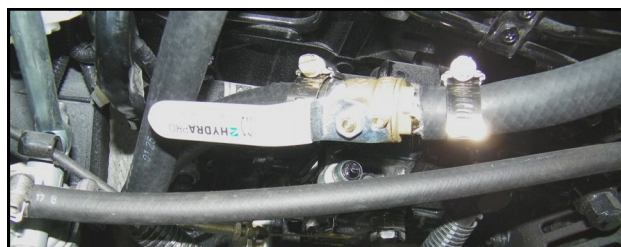

Fig. 1.6 (Shut-off Valve)
1.6 Splice into the heater supply line and install the in-line shut-off valve per figure 1.6.